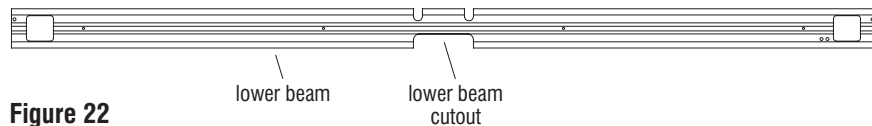
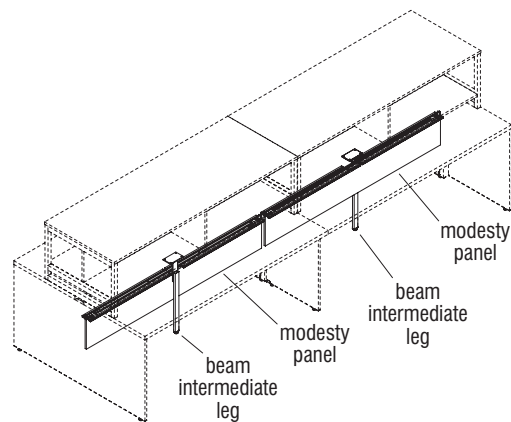

Figure 22
Figure 23
- The beam intermediate leg reinforces the beam under the primary top horizontal extrusion of the beam assembly and enters the beam through a cutout in the bottom of the horizontal lower beam. Intermediate legs are always centered lengthwise on the beam (Figure 22). Care must be taken when installing rails specified with storage, beam intermediate legs and modesty panels because the cutout in the bottom beam horizontal is offset to one side to ensure it doesn't interfere with modesty panels. If installer does not follow assembly instructions properly, some rails may have the intermediate leg in front of the modesty panel and other rails may hide the intermediate leg behind the modesty panel (Figure 23).